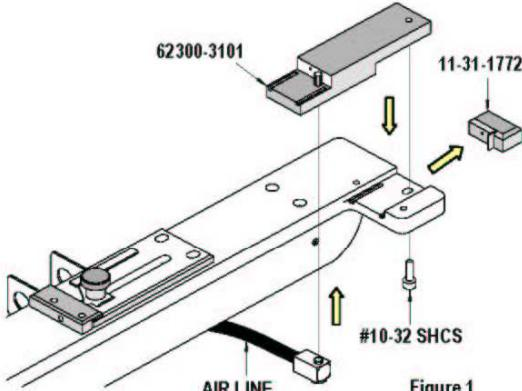

Figure 1
- Remove the air nozzle. See Figure 1.